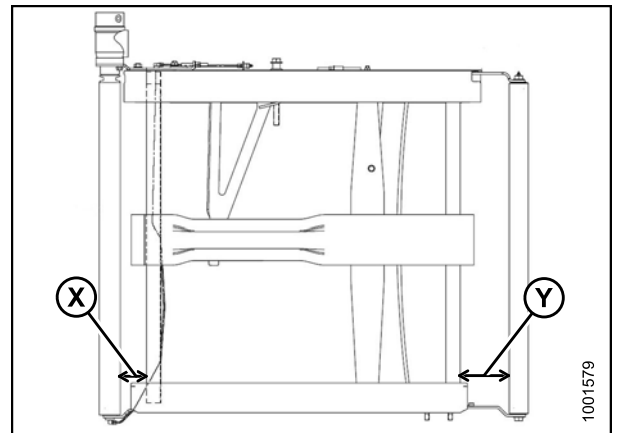

Figure 6.134: Adjustment location
1. Adjust the **drive** roller 'X' (shown in Figure 6.134: Adjustment location, page 187) by loosening nuts (A), jam nut (B) on adjuster rod and turning the adjusting nut (C).
2. Adjust the **idler** roller 'Y' (shown in Figure 6.134: Adjustment location, page 187) by loosening nut (A), jam nut (B) on adjuster rod and turning adjusting nut (C).